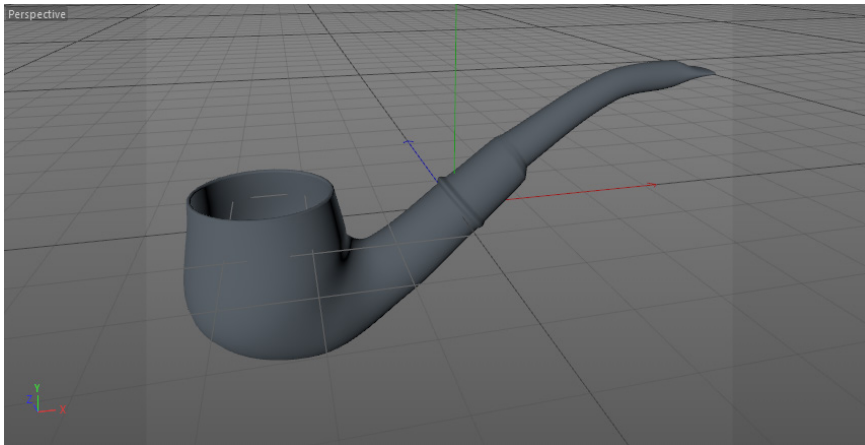

Figure 2-57 The pipe with the fillet caps displayed
7. Enter **10** and **1** in the **Steps** and **Radius** spinners, respectively, corresponding to the **Start** drop-down list. Similarly, enter **10** and **6** in the **Steps** and **Radius** spinners, respectively, corresponding to the **End** drop-down list. After entering the values, the cigar pipe is displayed with the fillet caps, as shown in Figure 2-57.